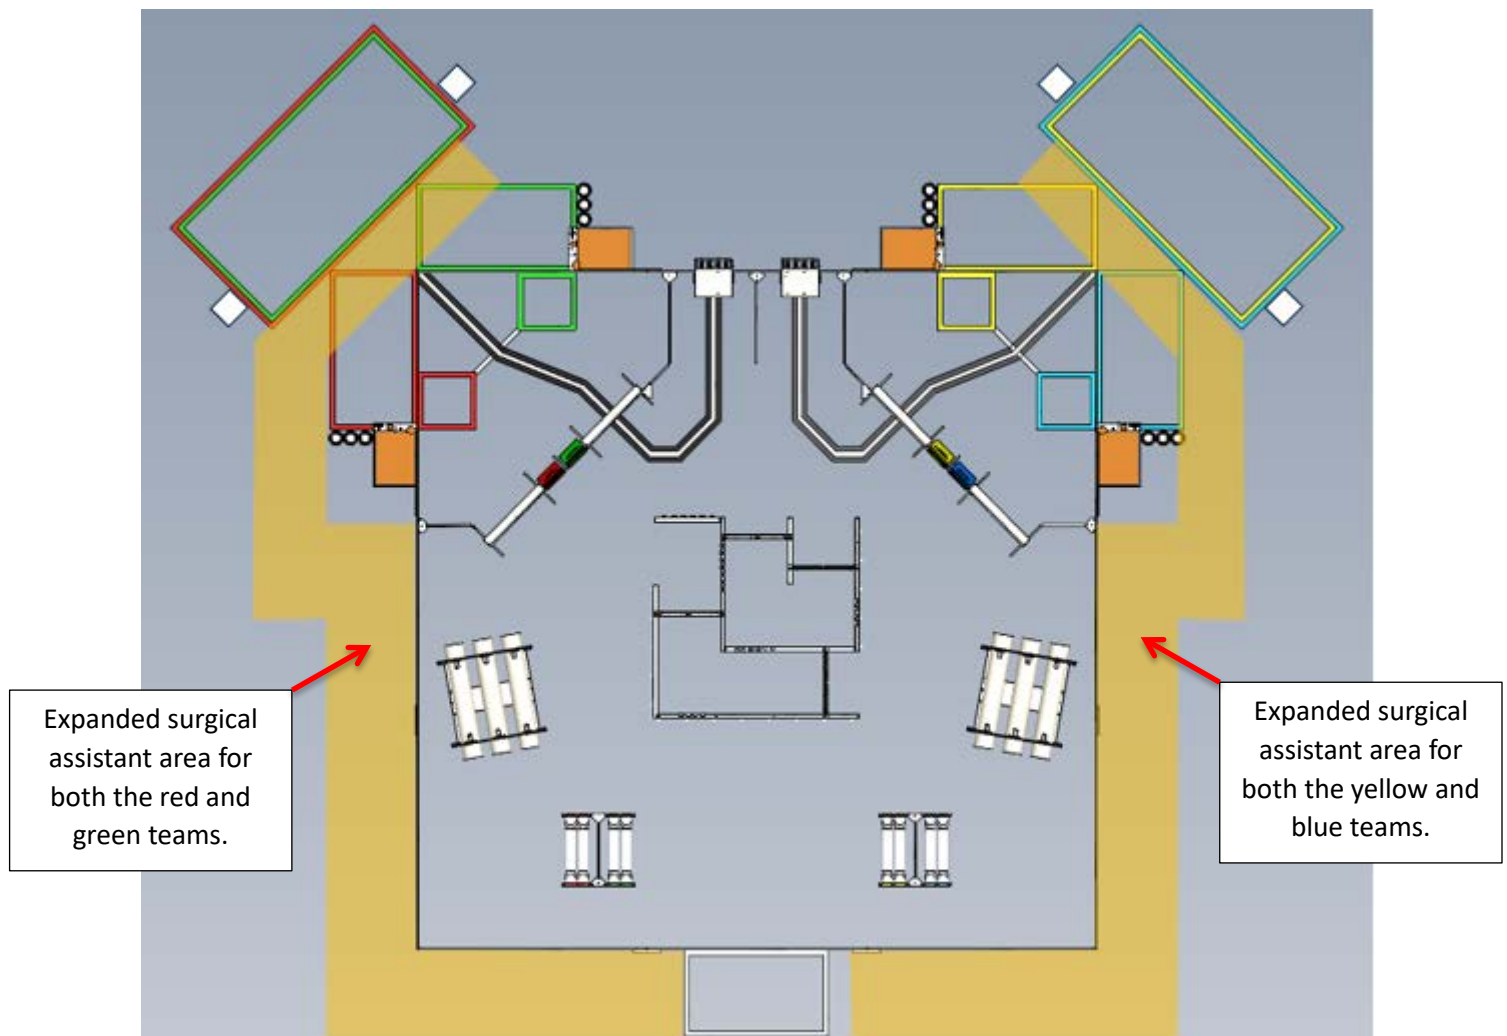

Figure 3.21. Notional Adjusted Surgical Assistant areas
- The surgical assistants' work areas will be expanded to include a virtual area outside the field within three feet of the outside border of the field. No additional tape lines will be added. Figure 3.21 approximates the intended expanded areas.